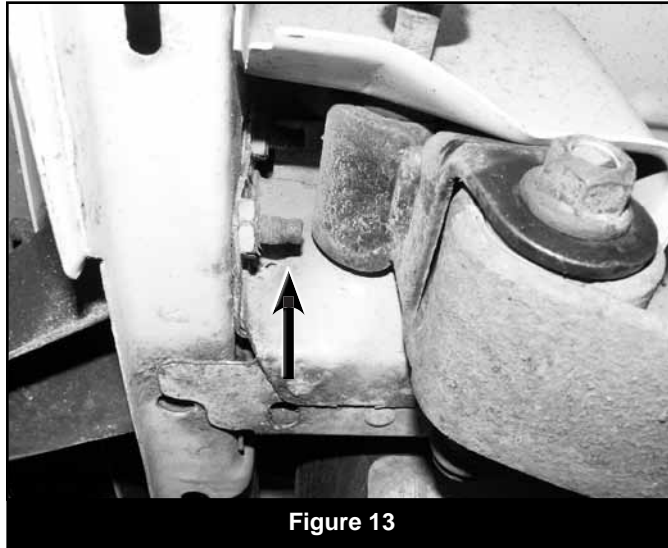

Figure 13
61. Apply a small amount of lithium based grease to bushing (3533RB) and install bushing, sleeve (52), and grease zerk into shackle (01312B).
64. Locate the bumper bolt that is protruding into the shackle pocket. This bolt will contact the new larger shackle through suspension travel. The bolt can either be cut off flush with the welded nut on the body or removed. (Fig 13)